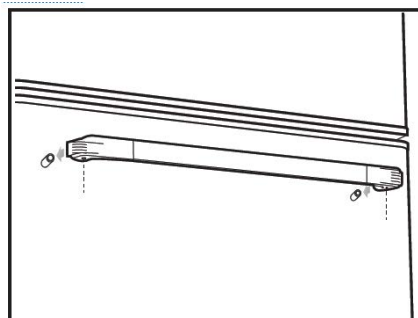

Fig. 5
- 2) Place provided fridge handle on to the screw caps on fridge door (Fig. 5) making sure that the smaller holes on the handle face downwards, and that the screw goes up into the center hole at each end of the handle. Tighten the screws using the provided 2.5 mm Allen key (Fig. 6)